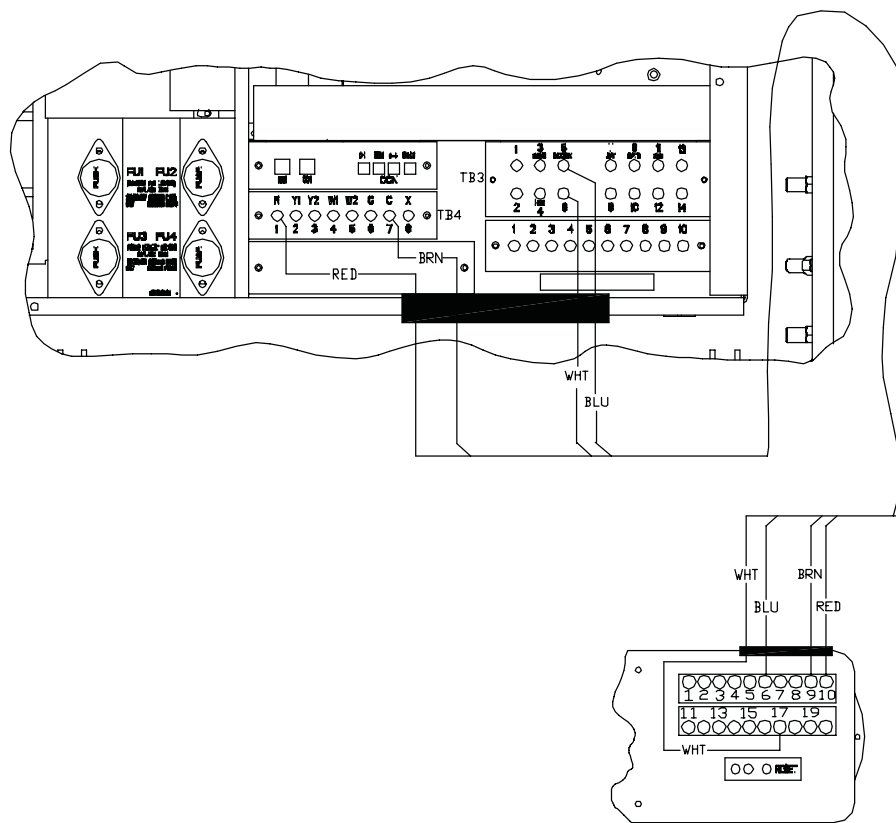

Fig. 6 — Supply Smoke Detector Wiring
8. Insert stripped ends of wire harness through knockout and wire to smoke detector as shown in Fig. 6.